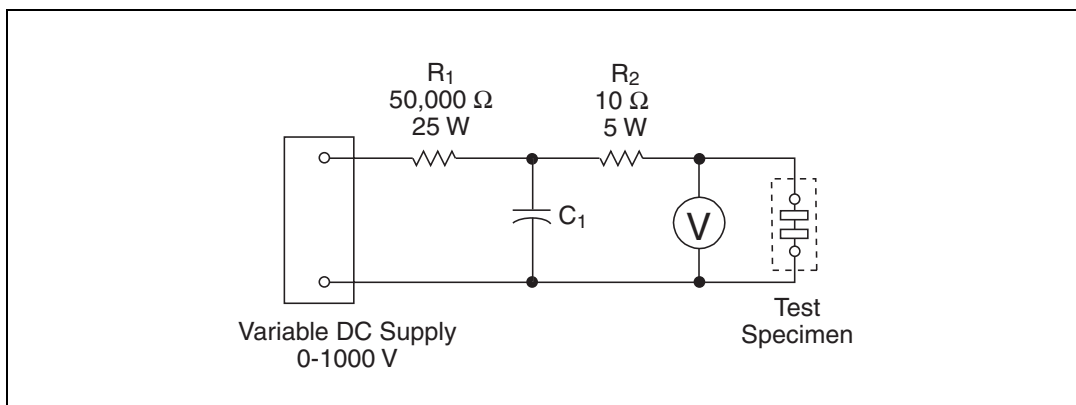

Figure 4.10 UL 497A Breakdown Voltage Measurement Test
2. Breakdown Voltage Measurement Test — Secondary protectors must break down within $\pm 25\%$ of the manufacturer's breakdown rating when tested in each polarity with a rate of voltage rise no greater than 2000 V/s. The secondary protector is to be mounted in accordance with the manufacturer's installation instructions and then subjected to the test circuit shown in Figure 4.10. This requirement applies only to secondary protectors connected between Tip and Ring or Tip/Ring and Ground of the telephone loop.